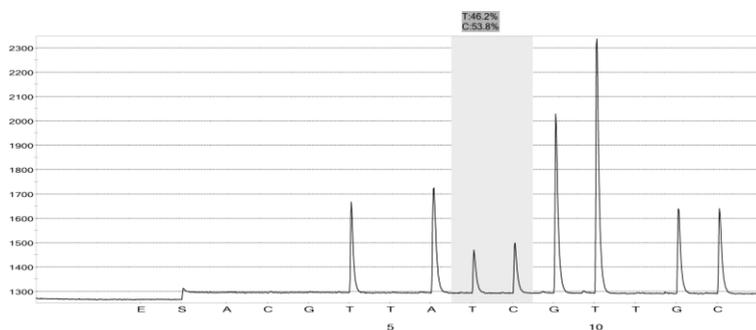

Figure 20. Pyrogram trace from PyroMark MD Software, AQ mode.
44. Open the run in the PyroMark Q96 MD Software and analyze all wells. The peak pattern should look like the one in Figure 20.